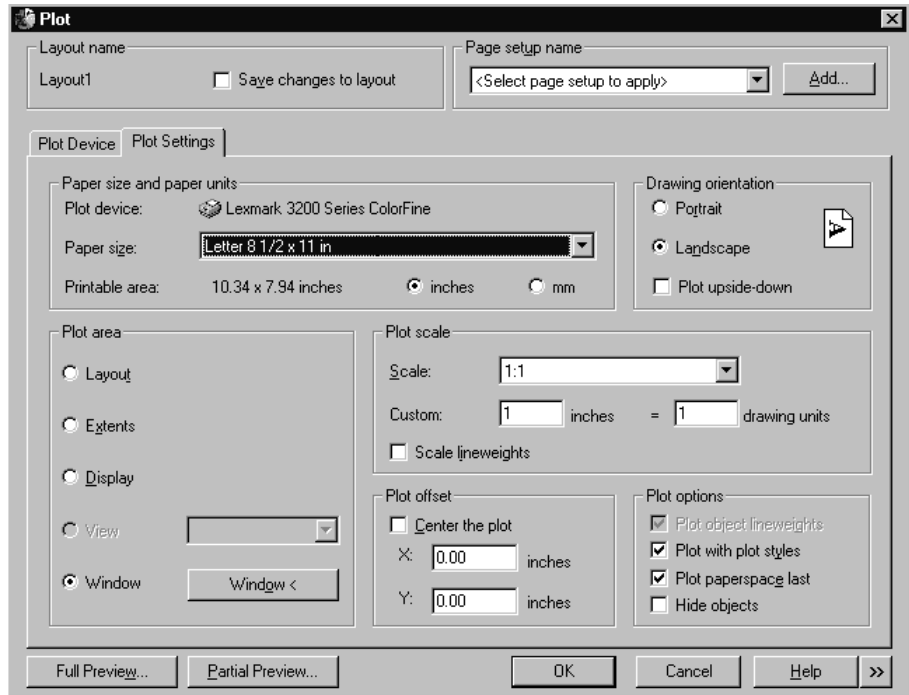

Figure 2-126
3. Make sure the Plot Scale or Plotted Inches = Drawing Units is 1 = 1. For AutoCAD LT 2000, this is found under the Plot Settings tab (see Figure 2-126). Next, pick the **Window** button in the lower left of the dialog. In LT 98, a Window Selection dialog will pop up, as shown below. Select the **Pick** button.
In LT 2000/2000i, the Plot dialog pops back up as shown in Figure 2-126.